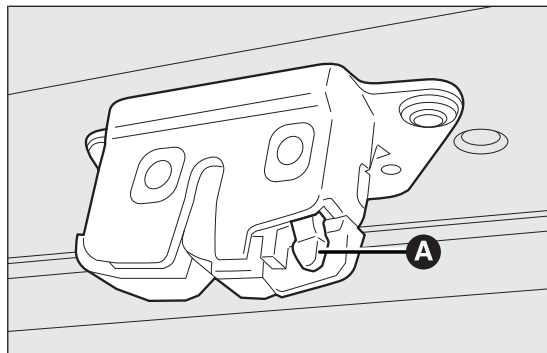

fig. 63
- ☐ from inside the boot, press lever A fig. 63 and open the tailgate.